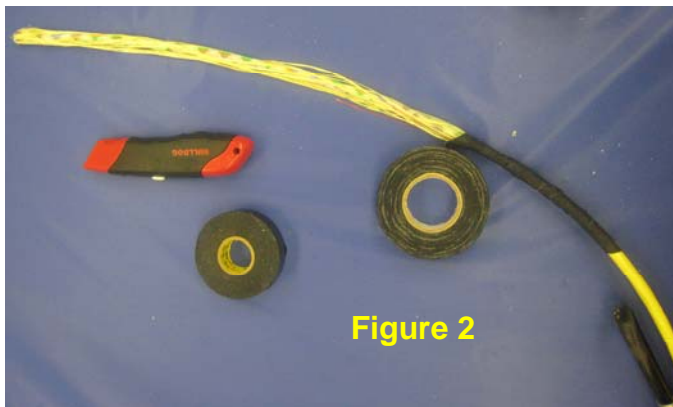

Figure 2
3. Beginning where the strength yarns are exposed outside of the cable sheath, wrap the friction tape spirally as you move towards the cable end. Make certain the tape overlaps the layer below it. See Figure 2.